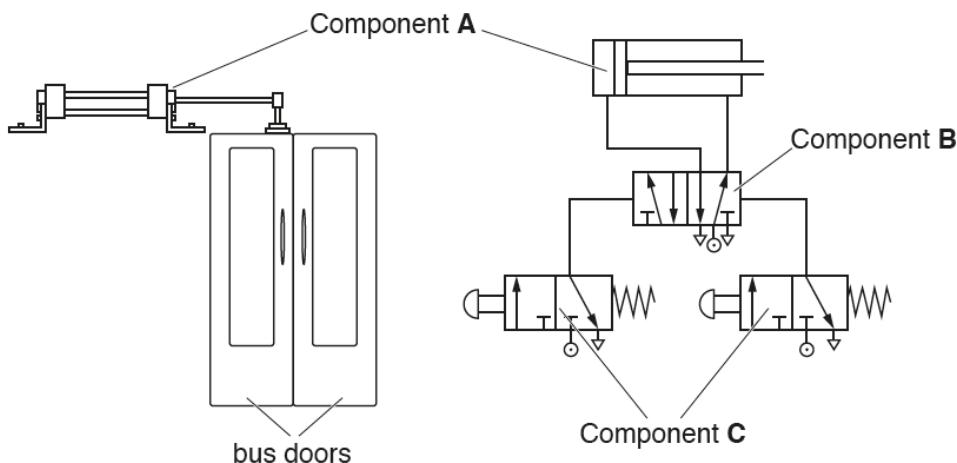

Fig. 6
- 5 Fig. 6 shows a pneumatic door system used on a bus.
- (v) Add **one** label to the pneumatic circuit in Fig. 6 to show **one** of the main air ports. [1]
Question part 5(a)(v) is the third part question within this examination paper which a much greater number of 'no attempts' than would be expected. Candidates were required to label the one of the main air ports on the pneumatic system diagram in Fig. 6. Candidates could have labelled any one of the three main air ports shown in the diagram to achieve the mark. Of those that did answer, the majority of answers across the ability range were incorrect.